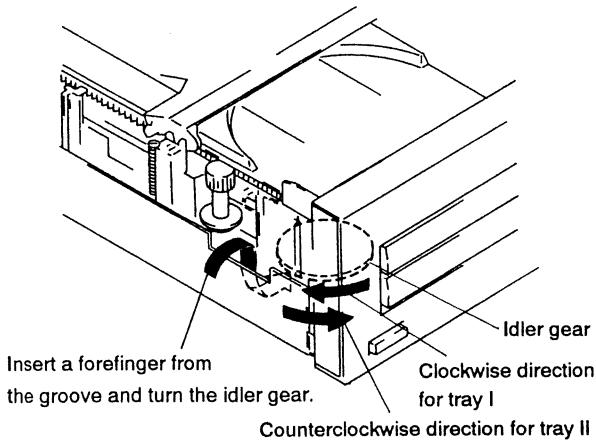

Fig. 1
Note 1: When opening the tray I manually, insert a forefinger from the groove and rotate the idler gear in clockwise direction, shown in Fig. 1.
Note: When opening the tray II manually, rotate the idler gear in the counterclockwise direction, shown in Fig. 1.
- 1 Use nippers or other tool to cut the two sections marked Ⓐ in figure 1. Then remove the spacer.